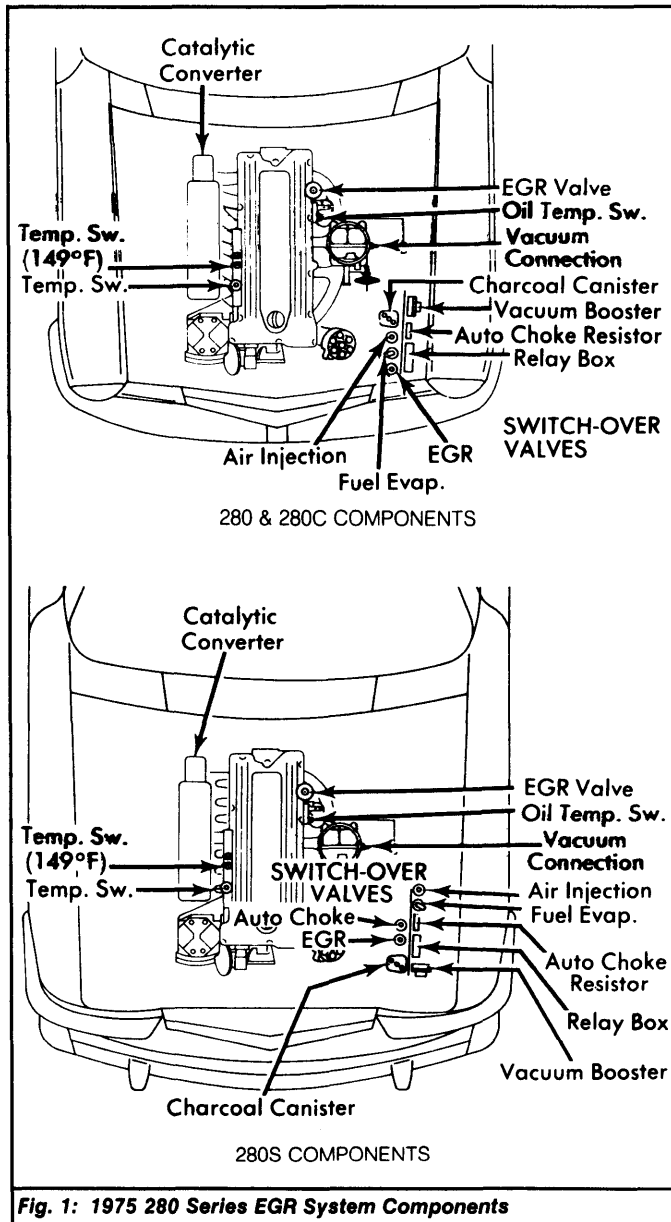

Fig. 1: 1975 280 Series EGR System Components
**1975-76 280 Models** - When coolant temperature is above 149°F (65°C) and transmission is in Drive, the temperature switch is closed and the EGR switchover valve is de-energized. See Fig. 1. The EGR valve is then controlled by venturi vacuum through the vacuum booster. The EGR valve cannot be activated by the vacuum booster when transmission is in Park or Neutral, or when coolant temperature is below 149°F (65°C).